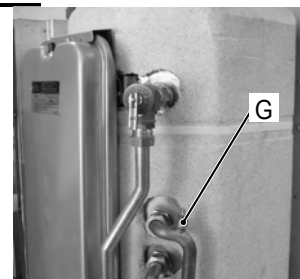

Figure 17.5
- Loosen the d.h.w. storage tank air purge valve (G in Fig. 17.5)